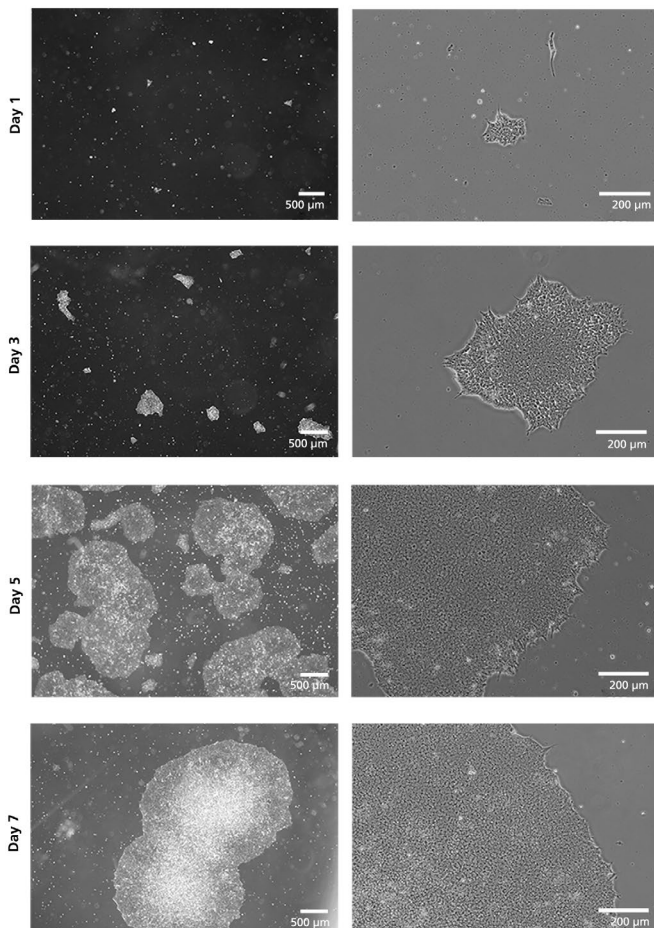

Figure 1. Recovery of Representative PD hiPSCs on Days 1 - 7 After Thaw.
13. Perform medium changes as desired using mTeSR™ Plus and visually assess cultures daily to monitor growth and morphology. See Figure 1 for expected growth characteristics during the first seven days after thawing. Medium can be changed daily, every other day, or up to two consecutive days of feeding can be skipped when using mTeSR™ Plus. To skip two consecutive days of feeding, add twice the volume of medium.